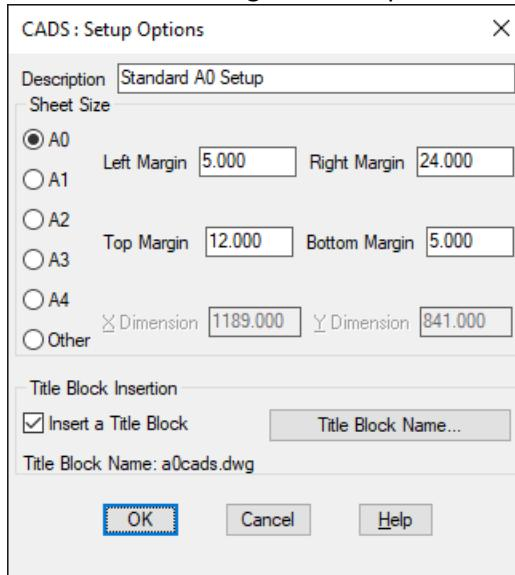

Figure 2.2 Setup Options Dialogue Box
The CADS Setup Utility dialogue box has a Redefine button which opens a further dialogue box (the CADS Setup Options dialogue box-Figure 2.2) in which you can alter the settings to suit your own requirements. If an existing setting is highlighted, then its data will appear in the dialogue box ready for editing as described in "Setting up the options".
Whether you are redefining an exiting setup or creating a new one, the options are selected from the CADS Setup Options dialogue box shown in Figure 2.2 and described in the following paragraphs: -
- ▶ To ensure that the setup will be for Normal Mode, you can check this option's current settings by picking the Redefine button. This will access the CADS Setup Options dialogue box as shown in Figure 2.2. You should ensure that the current settings do not have the Paper Space Setup activated i.e. the check box does not have an X in it. Once you are happy with the settings, exit the dialogue box via the OK button;
- ▶ To ensure that the setup will be for Fast Mode, check this option's current settings by picking the redefine button. This will access the CADS: Setup Options dialogue box as shown in Figure 2.2. Ensure that the current settings have the Paper Space Setup activated, i.e. the check box has an X in it. Once you are happy with the settings, exit the dialogue box using the OK button.